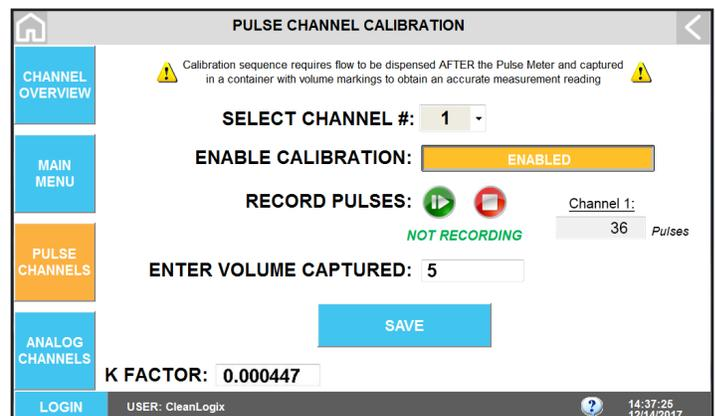

Figure 9.3: Completed Pulse Channel calibration sequence with Volume amount captured
6. After the dispense has completed enter the **VOLUME AMOUNT CAPTURED** [Figure 9.3].